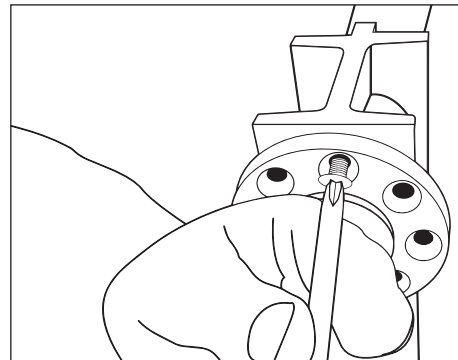

FIGURE 6
1. Unscrew and remove the adjustment plate screws (Fig. 6).